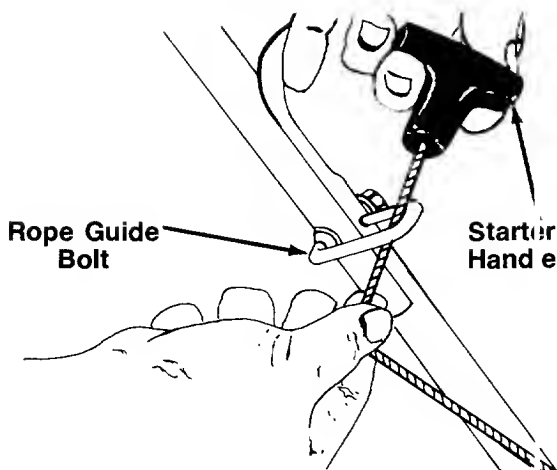

FIGURE 10.
3. Slip the starter rope into the rope guide bolt as shown in figure 10.